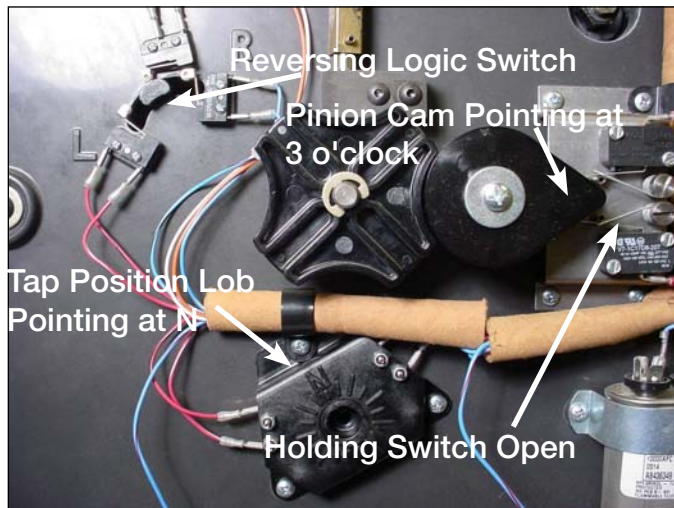

Figure 45.
13. Check and set the tap changer for neutral position. The tap changer can be set for any tap position by rotating the pinion cam in either the clockwise or counter clockwise direction. For rotating to the neutral position, the reversing logic switch actuator must be in the center with the neutral switch arm depressed. The tap position lobe must have the pointer pointing at N. The pinion cam point is pointing at the three o'clock position over the holding switch lever arm. The holding switch is open. See Figure 45.